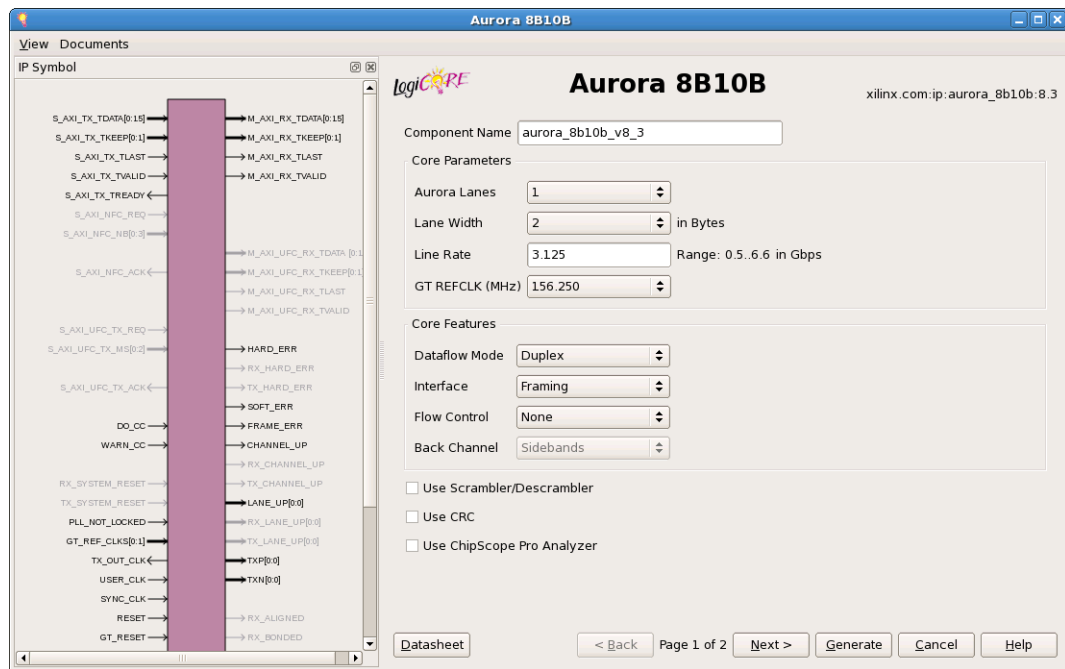

Figure 10-2: CORE Generator Aurora 8B/10B Customization Screen
7. In the Component Name field (Figure 10-2), enter a name for the core instance. This example uses the name `aurora_8b10b_v8_3`.